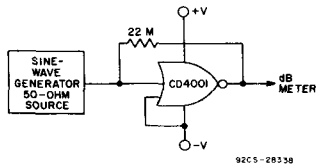

Fig. 7 — Linear-gain test circuit.
**AC Gain and Bandwidth**—CMOS linear-mode gain was measured for both the buffered and unbuffered RCA 2-input NOR gate by means of the test circuit of Fig. 7. Fig. 8 shows typical linear-mode gain difference between buffered and unbuffered RCA 2-input NOR gates. While absolute performance depends on device type (inverters; 2-, 3-, 4-input gates) and test configurations, Fig. 8 defines the